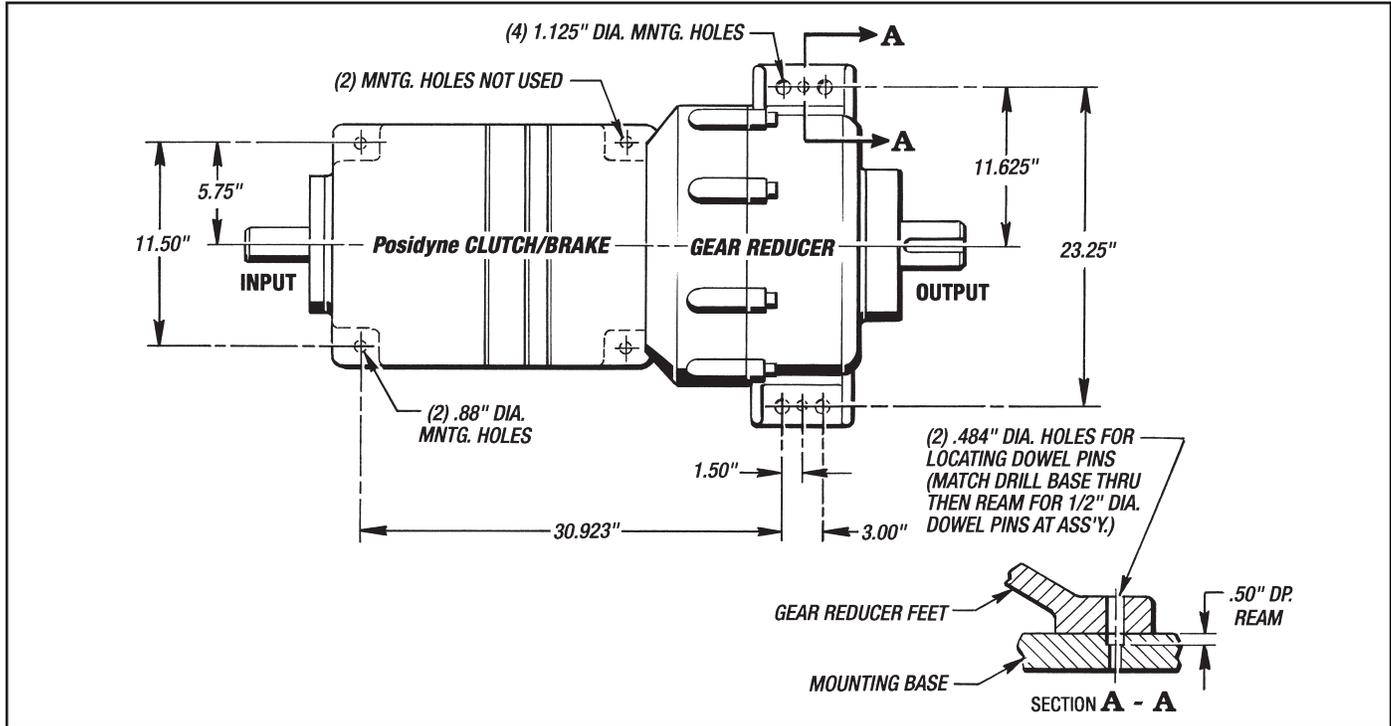

Figure 3.2 - Mounting Hole Layout and Installing Mounting Dowel Pins
A nominal 1/2" Spacer plus shims has to be used under the *Posidyne* Input Housing feet to take up the gap for vertical alignment. (See Figure 3.2 for Mounting Hole Layout.)
1. Drill (2) .484" Dia. holes through the machine base, using the (2) .484" Dia. holes in the feet of the Gear Reducer Main Housing (#800) as pilot holes as shown in Figure 3.2.